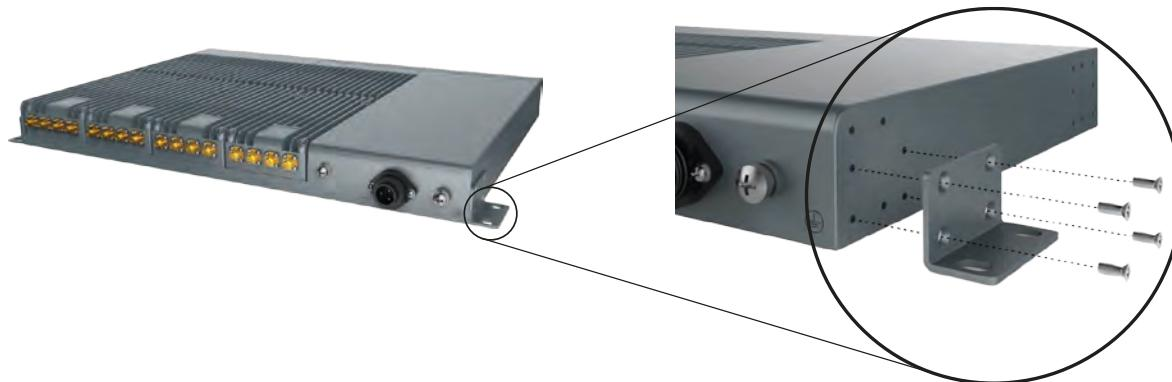

Fig. 14: Attaching a 19" mounting bracket
- Attach the 19" mounting brackets to the C-hub rear, using 4 screws M3×16 per bracket and the Phillips screwdriver. Observe the orientation of the brackets shown in Fig. 14.